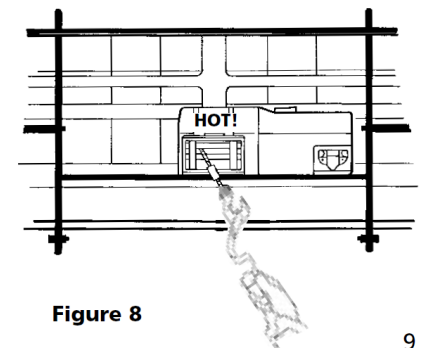

Figure 8
**WARNING** The drum and wire rope may get very hot (Figure 8).